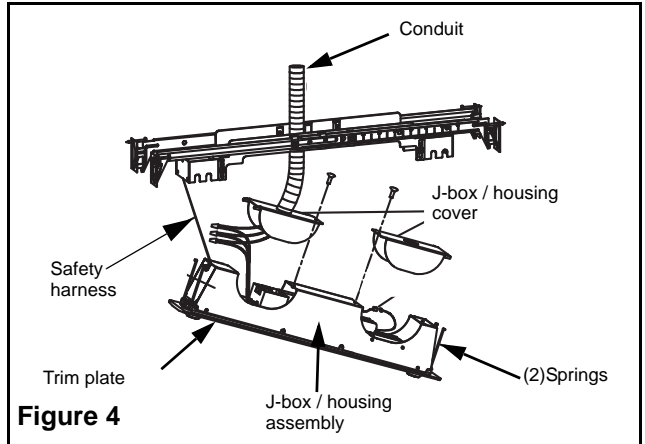

Figure 4
3. Adjust height of bracket vertically using adjusting slots and tighten all screws on adjusting slots and bar hanger bracket to secure bar hanger bracket and bar hanger to the housing. Ensure bar hanger assembly is flush to the surface (see fig.4)
5. Remove the knockout on the j-box cover where the AC power will enter and install AC conduit leaving 6 inches of wire (see fig.4).
6. Attach safety harness to the j-box / housing assembly (see fig.4).